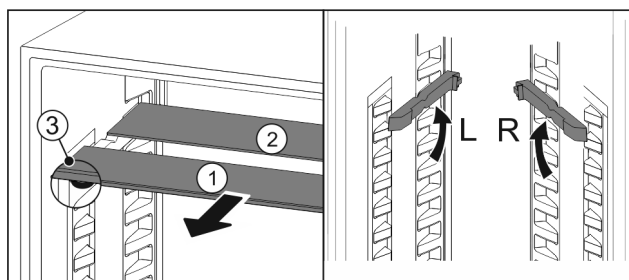

Fig. 194
- Pull the glass panels out Fig. 194 (1) from the front, one at a time.
- The glass panel Fig. 194 (1) and trim strip are at the front.
- The stops Fig. 194 (3) point down.